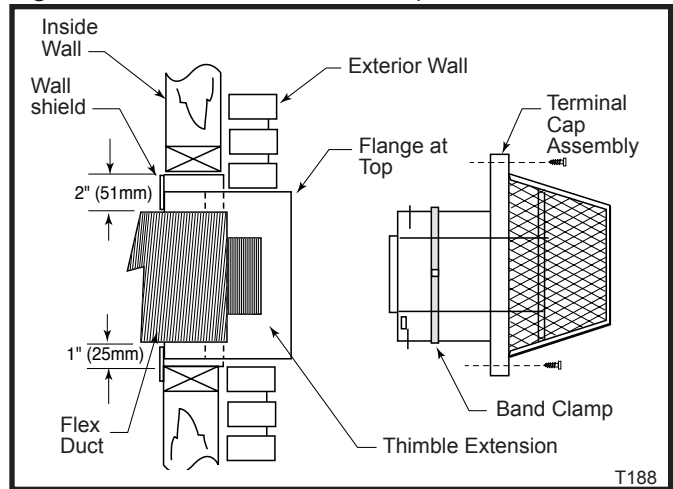

**Fig. 19** The telescope extension must be used if wall thickness is over 5" (127 mm).
1. Measure the total wall thickness. Determine whether or not the thimble extension is needed. If the combustible wall depth is over 5" (127 mm), the extension should be used. (Fig. 19)
2. Assemble wall thimble with thimble extension flange to top. Mate thimble to wall plate with the four tabs provided. Bend tabs over to secure. (Fig. 19)
3. Locate vent opening in wall. Maintain 2" (51 mm) clearance to top of vent from combustibles. Install wall thimble per instructions supplied with Horizontal Vent Kit. Refer to Pages 12 & 13, Figures 19 and 20 for wall thimble installation.
4. Attach vent components beginning with a TDV45S elbow. Apply high temperature sealant to the outside leading edge of the fireplace flue pipe, then install the TDV45S starter elbow and secure it to the fireplace with the three (3) screws (provided) through the outer pipe flange and into the fireplace 7" (178 mm) dia. starter flange.